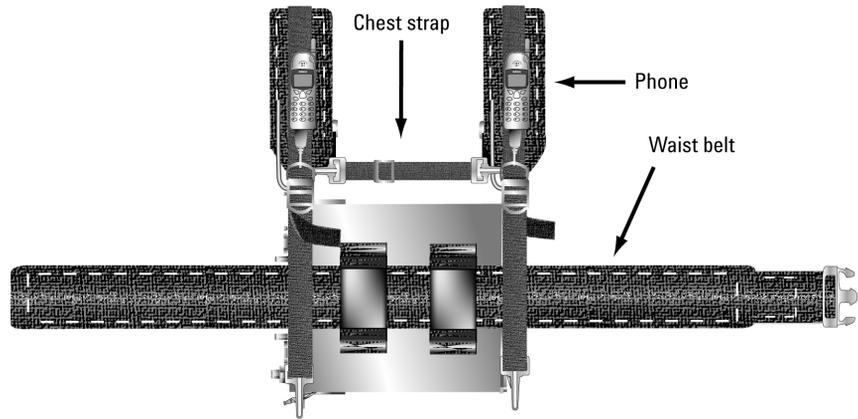

Figure 27 Carry pack inside view
- 2 Feed the waist belt through the belt loops of the pack, as shown in Figure 27 on page 60. The black mesh should be on the outside.
- 6 Connect the chest strap to the D-rings of the shoulder straps as shown in Figure 27 on page 60.